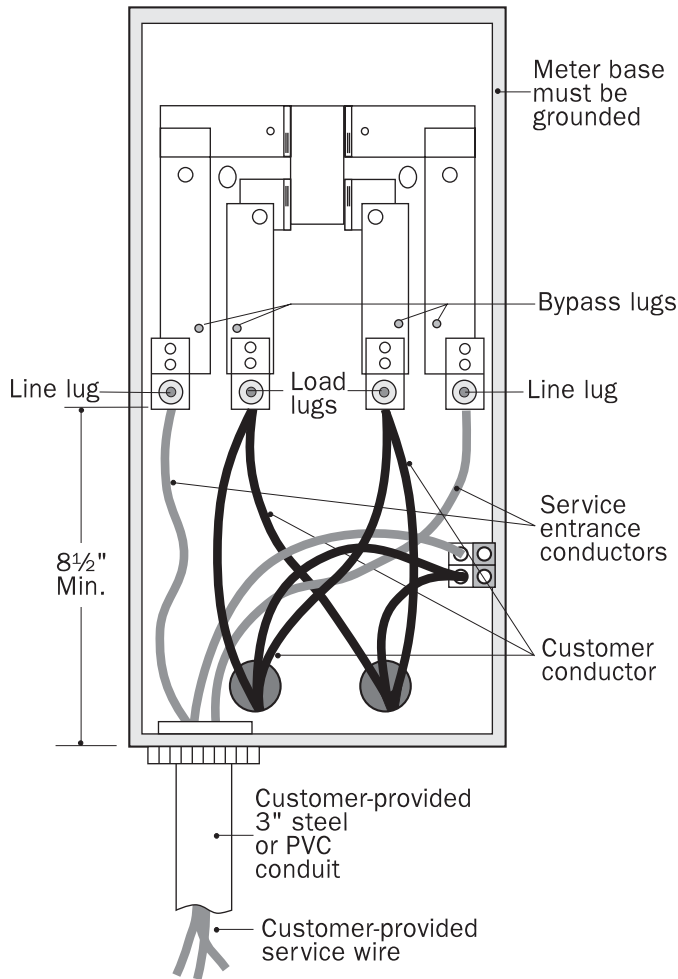

Figure 26.
The meter base required for a 120/240 volt, 400 ampere service is called a "Class 320" meter base (see Figure 26).
- Contain a Class 320 manual bypass (see Figure 26).
- Have a least 8-1/2 inches of clearance between the bottom of the lugs and bottom of the enclosure (see Figure 26).